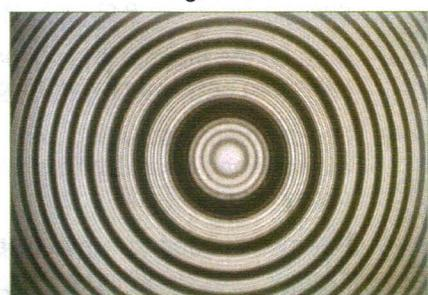

Figure 9b
- Rotate the polarizer mounted behind the lens until a pattern like Figure 9b is observed. This shows the full range of Zeeman-split lines emitted in the transverse direction.